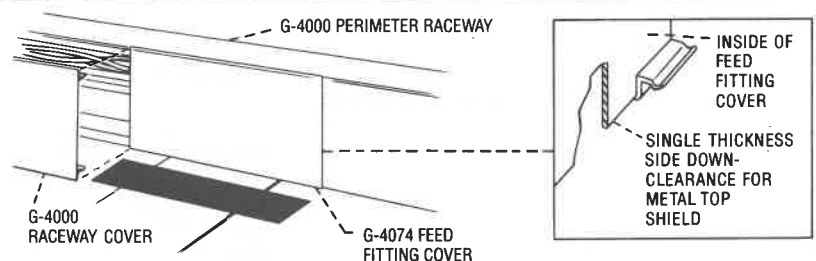

Fig. 15
D. **After system has been completely installed:** connect transition connector pigtailed to appropriate conductors in G-4000 perimeter raceway, using approved means. Close off all unused pigtailed with wirenuts. Snap feed fitting cover into G-4000 raceway, over feed fitting, as in Fig. 15. Snap raceway covers into raceway, abutting feed fitting cover.